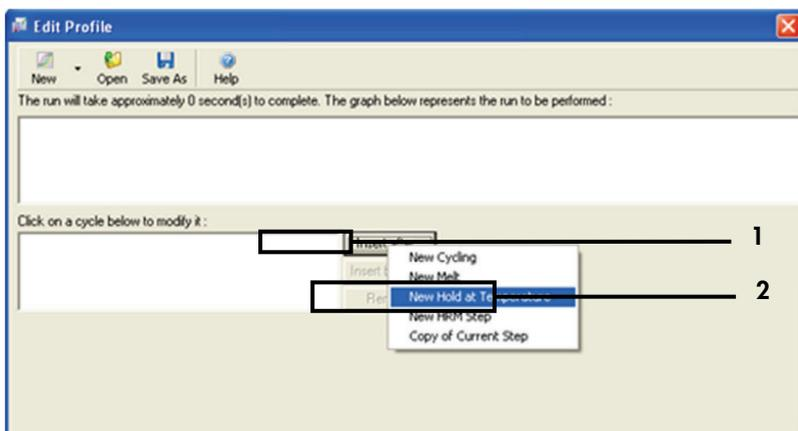

Figure 23. Inserting an initial incubation step. 1 = “Insert after”; 2 = “New Hold at Temperature.”
- Click **Insert after** and select **New Hold at Temperature** (Figure 23).